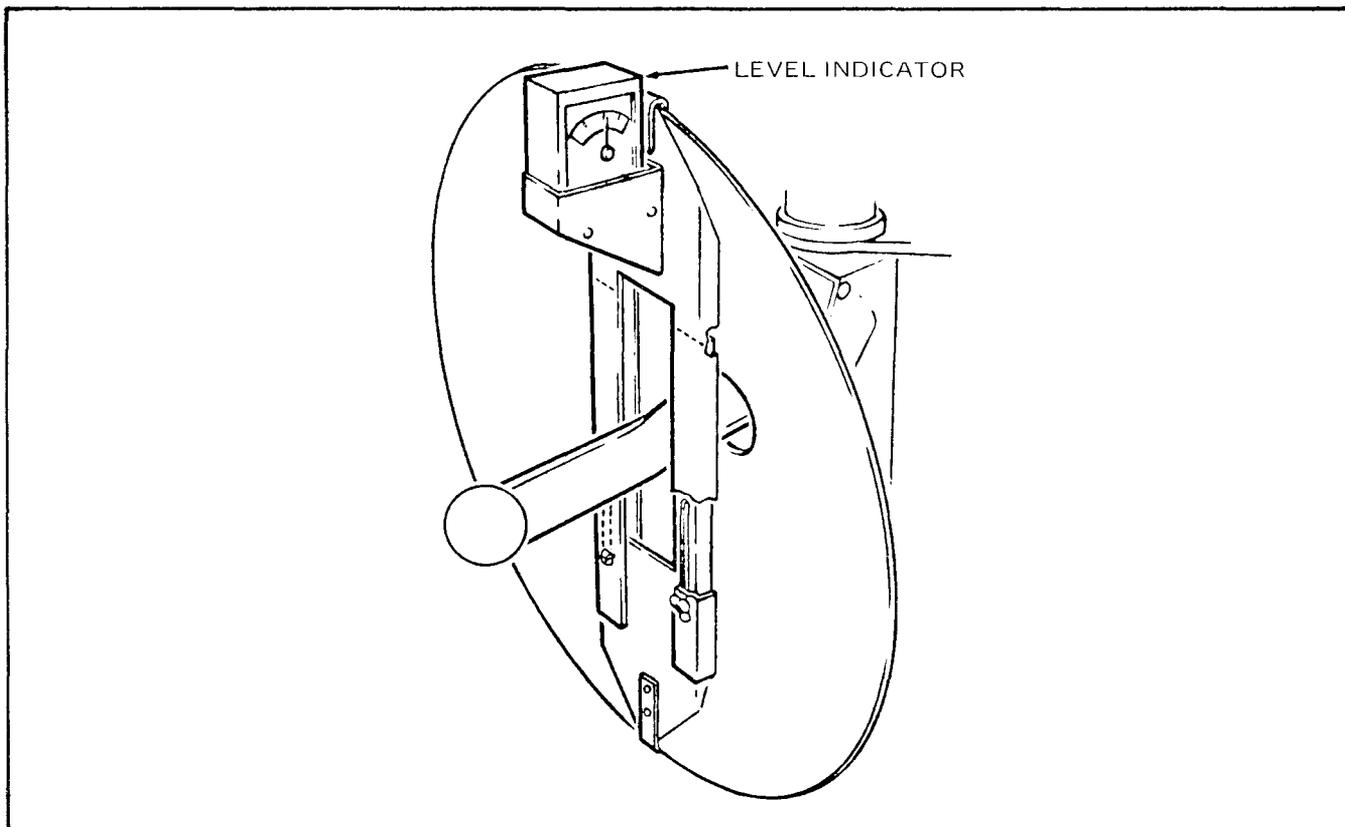

Figure 7-10. Protractor-Level for Measuring Antenna Angle.
- k. Insure that the elevation pointer on the antenna is aligned with the  $0^\circ$  mark. Measure the angle between the antenna reflector and the horizontal axis using the protractor-level (figure 7-10). Carefully note and record the angle.